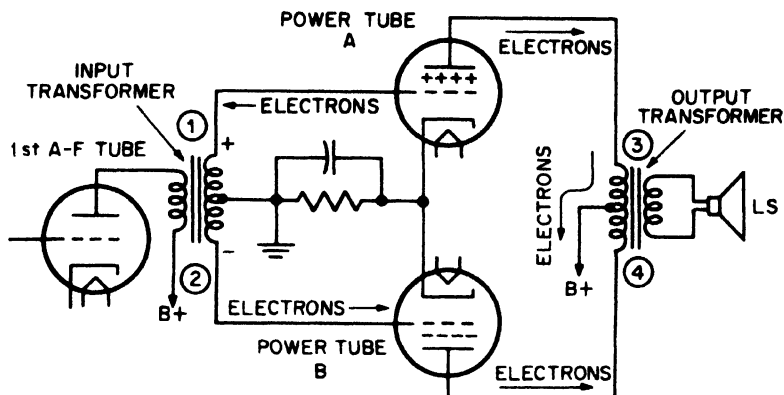

Fig. 27-4. Circuit showing how two power tubes are connected in push-pull.
**The Push-pull System for Power Tubes.** Another method of multiplying the output of the power tube is to connect two of them in *push-pull*. Figure 27-4 shows this circuit.